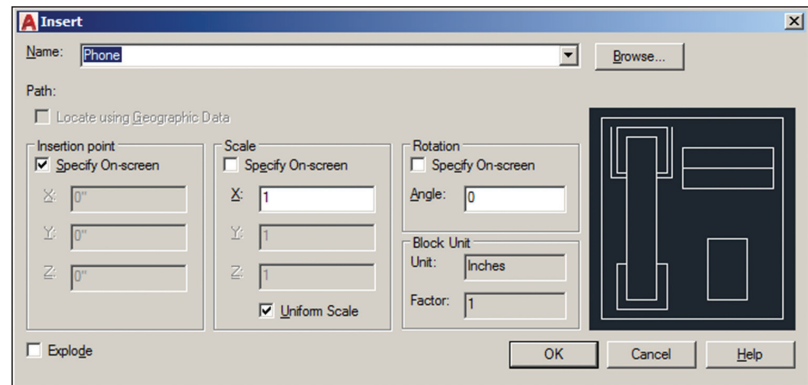

FIGURE 7.19 Inserting a phone block
3. Type I (for Insert) and press Enter. Select Phone in the Name drop-down list. Deselect Specify On-Screen in the Scale and Rotation sections of the Insert dialog box and click OK (see Figure 7.19).